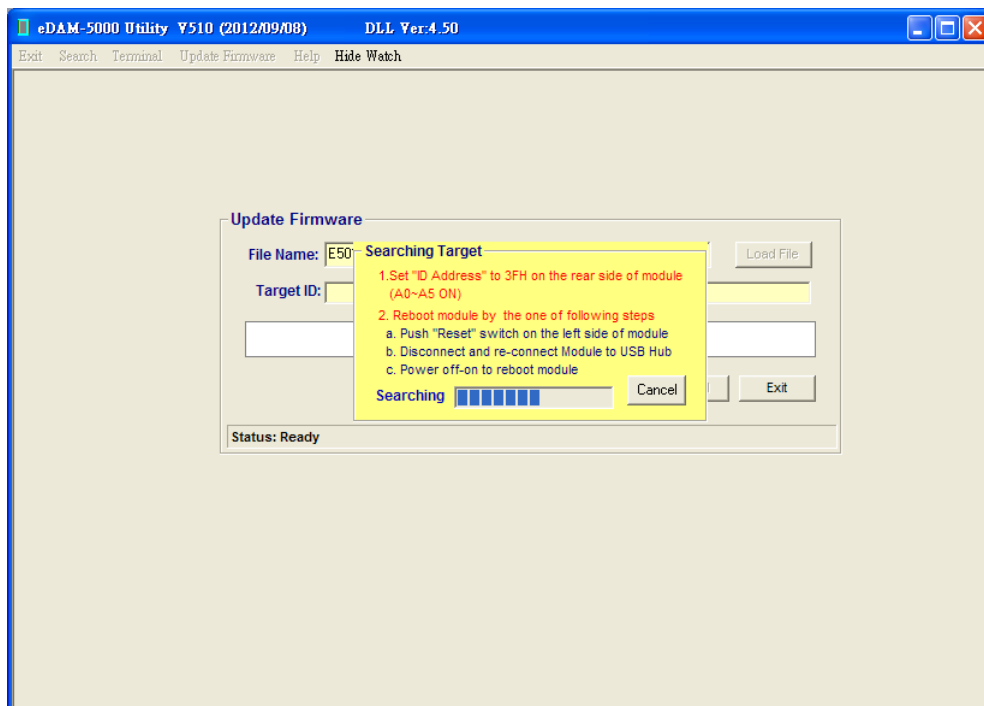

Figure -8
8. The Utility is searching module. Power-off /on the module or press "**Reset button**" at the down side of the module to **reboot** the module. (see Figure -8)